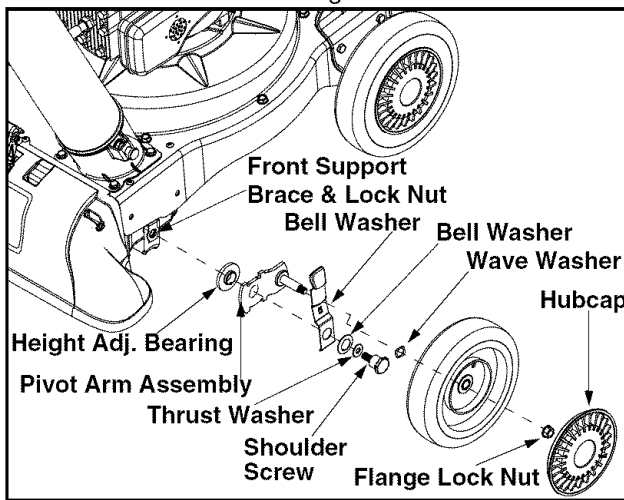

Figure 19
- **Wheels-** Place a few drops of SAE 30 oil on each shoulder screw once a season. Refer to Figure 19 on page 16.
- Remove the front hubcaps, flange lock nuts, front wheels, and wave washers that attach to the pivot arm assemblies. See Figure 19.